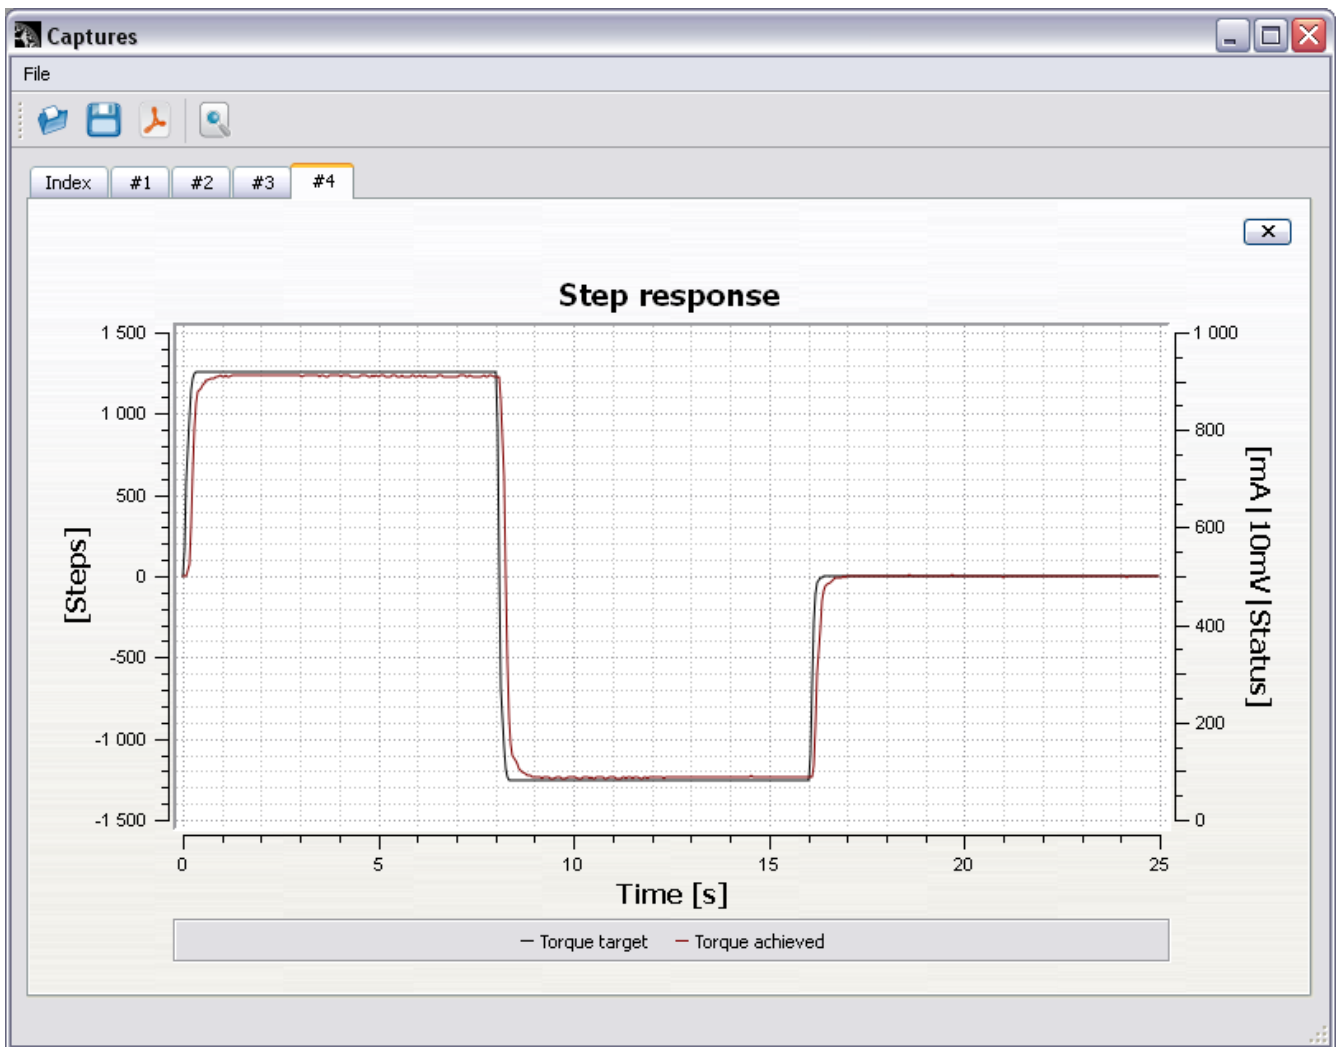

Figure 4: Optimal torque PI-gain values
6. Repeat step 5. several times until you get minimum difference to target graph. Typical optimal results are shown in Figure 4.